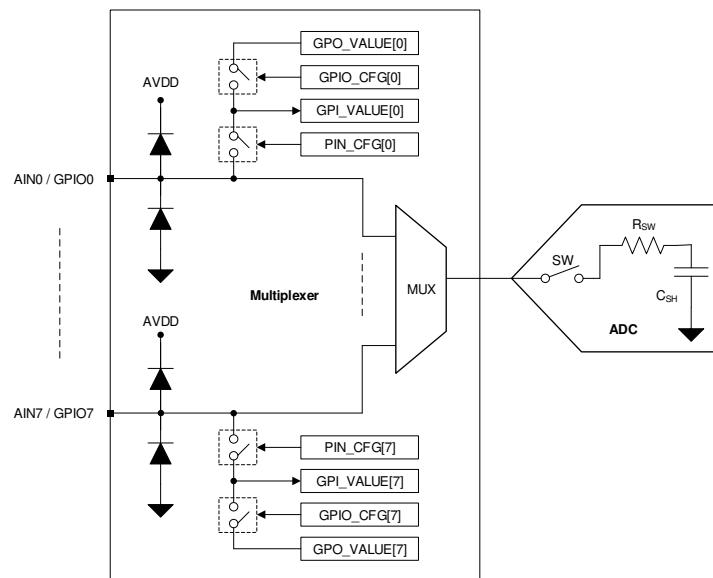

图 6-1. Analog Inputs, GPIOs, and ADC Connections
The eight channels of the multiplexer can be independently configured as ADC inputs or general-purpose inputs/outputs (GPIOs). As shown in 图 6-1, each input pin has ESD protection diodes to AVDD and GND. On power-up or after device reset, all eight channels of the multiplexer are configured as analog inputs.
图 6-1 shows an equivalent circuit for the pins configured as analog inputs. The ADC sampling switch is represented by an ideal switch (SW) in series with a resistor (R_{SW} , typically $150\ \Omega$) and a sampling capacitor (C_{SH} , typically $30\ pF$). During acquisition, the SW switch is closed to allow the signal on the selected analog input channel to charge the internal sampling capacitor. During conversion, the SW switch is opened to disconnect the analog input channel from the sampling capacitor.
To enable write access to the configuration registers for diagnostics, write 0x96 in the DIAGNOSTICS_KEY register. To enable bit-walk test mode, configure BITWALK_EN = 1b. In the bit-walk test mode (see 図 6-1), the sampling switch (SW) remains open and the test voltage is applied on the sampling capacitor (C_{SH}) during the acquisition phase of the ADC. In diagnostic mode, the conversion process of the ADC remains the same as normal device operation. The ADC starts the conversion phase on the rising edge of \overline{CS} and outputs the code corresponding to the sampled test voltage. The output code of the ADC is expected to be proportional to the test voltage, as shown in 式 2, after adjusting for DC errors (such as INL, gain error, offset error, and thermal drift of offset and gain errors).